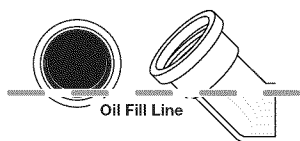

Fig. 13
5. Look into the oil fill hole (use a flashlight if needed). The oil should be just touching the innermost thread (Fig. 13).
6. If the oil level is not touching the innermost thread on the oil fill hole, add a small amount of oil to the oil fill hole and recheck (Fig. 13). Repeat this procedure until the oil level reaches the innermost thread on the oil fill hole.